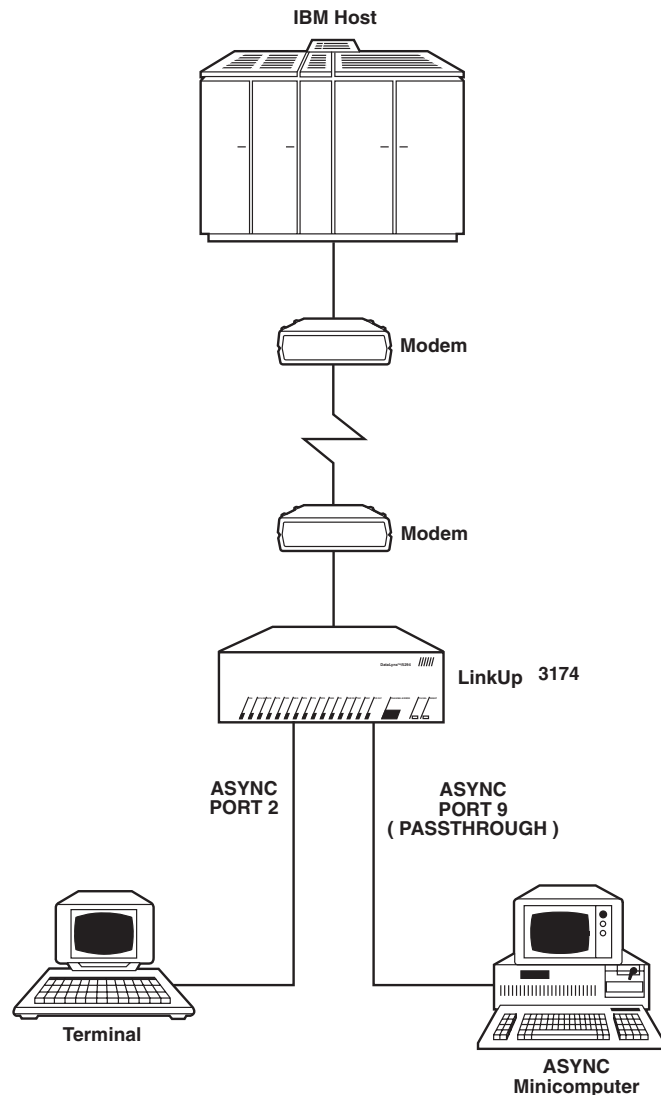

Figure 2-3. Typical LinkUp 3174 Passthrough Application.
- **Passthrough Units** — A Passthrough Unit (PTU) is, for passthrough sessions, the equivalent of the Logical Unit. It enables a terminal user to connect to another asynchronous port on the LinkUp rather than to one of the synchronous ports. In a typical application, this second async port is connected to a minicomputer such as a DEC™ VAX™. The terminal operator may then communicate through the LinkUp 3174 to the VAX by selecting the appropriate PTU number. The same operator may also select a Logical Unit (LU) and communicate with an IBM mainframe. Figure 2-3 shows a typical example of this application.